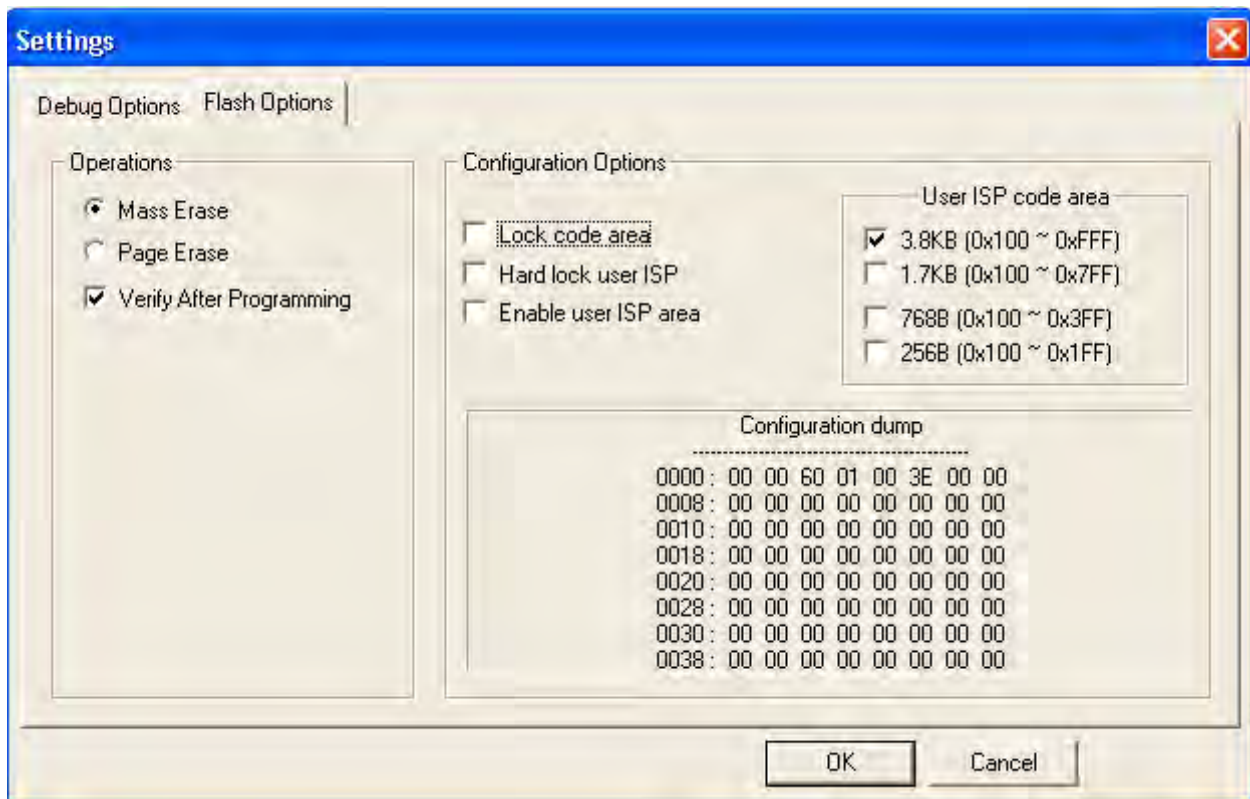

Figure 27. Configuring the Flash Options
8. Click the **Flash Options** tab. The Flash Options Settings dialog will appear, as shown in Figure 27. To select the proper options for Flash programming, refer to the Z51F3221 Product Specification \(PS0300\).